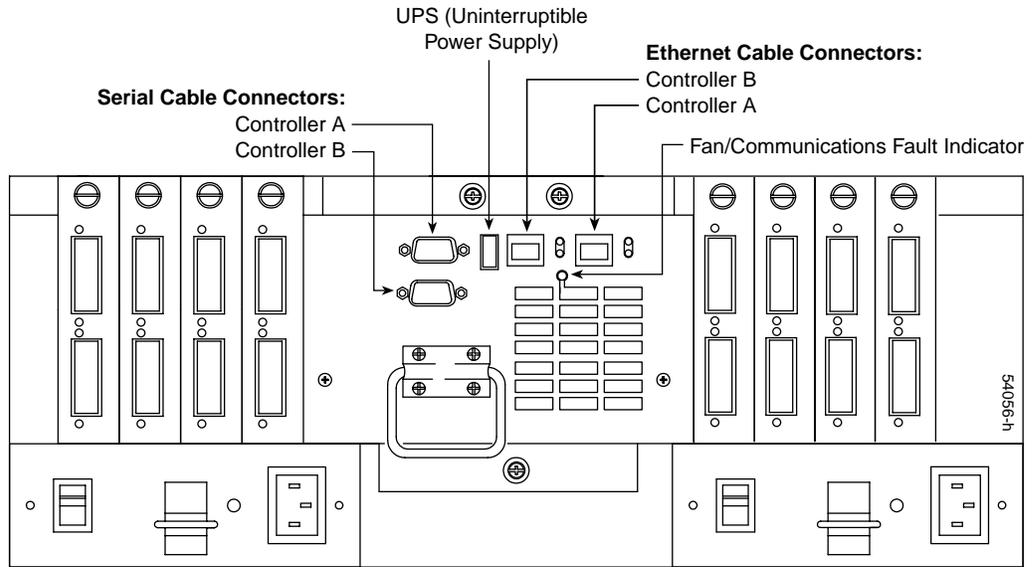

Figure 4-8 Fan/Communications Interface Cables and Fault Indicator
3. Disconnect all interface cables (RS-232 and Ethernet) from the failed fan/communications canister (Figure 4-8).
6. Check the Fan/Communications Fault indicator (Figure 4-8 on page 54). The amber Fault indicator should be off.